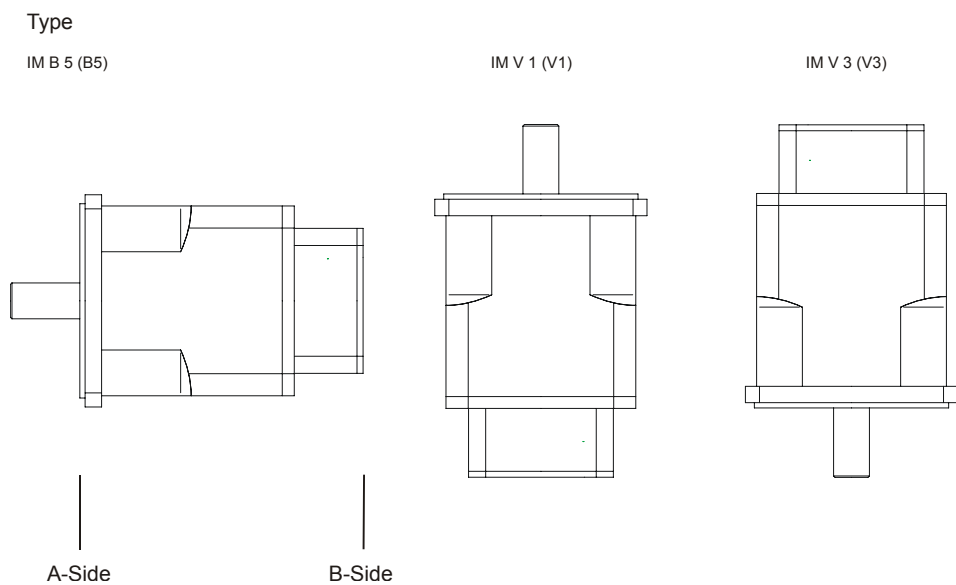

Fig. 2: Mounting Positions of JL2 Motors
- Protect the motors against liquids soaking into the bearing in case the shaft end is installed upwards (design V1); refer to Fig. 2.
Installation	<ul style="list-style-type: none"> • Horizontal position (B5) to Fig. 2 on Page 22 • If the module is operated at an altitude higher than 1,000 m above sea level, derating will be required. • A clearance of at least 10 cm above and below the motor must be maintained to provide proper air circulation.